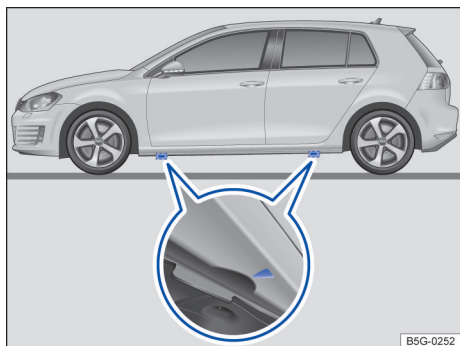

Fig. 189 Lift points for the jack.
The jack must be positioned at one of the 4 lift points located behind the markings on the vehicle body (2 on each side as shown in → fig. 189). You must use the lift point closest to the wheel being changed → ⚠.
- Automatic or DSG transmission:* Shift the transmission to Park (P) → page 149, *Automatic or DSG® transmission selector lever*.
9. Find the jack lift point → fig. 189 on the vehicle frame that is closest to the wheel to be changed.